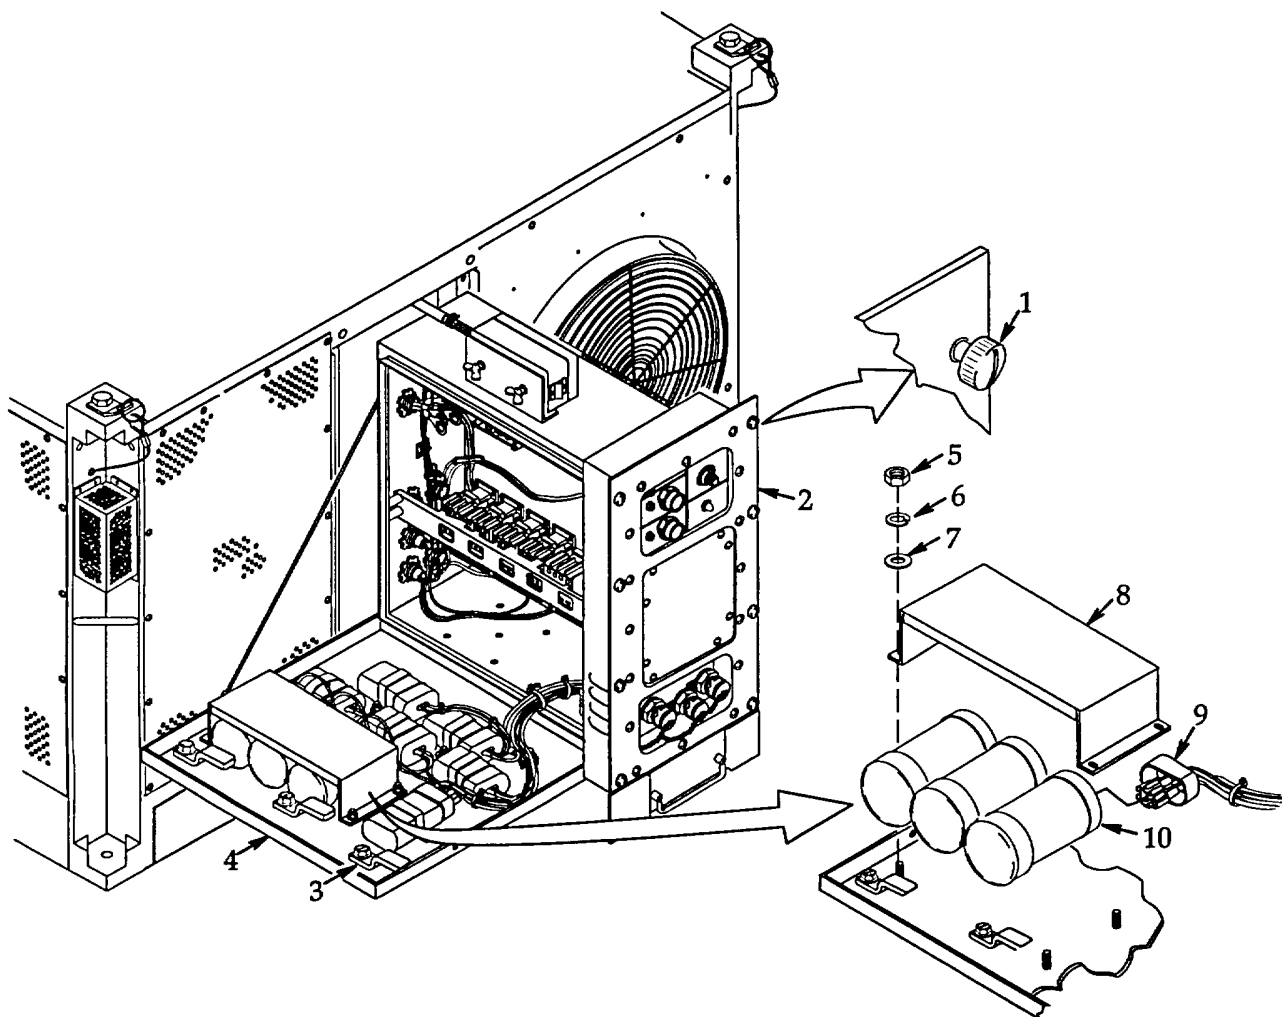

Figure 4-27. Capacitors (C7 thru C9).
- a. **Removal.** See figure 4-27.
b. **Installation.** See figure 4-27.